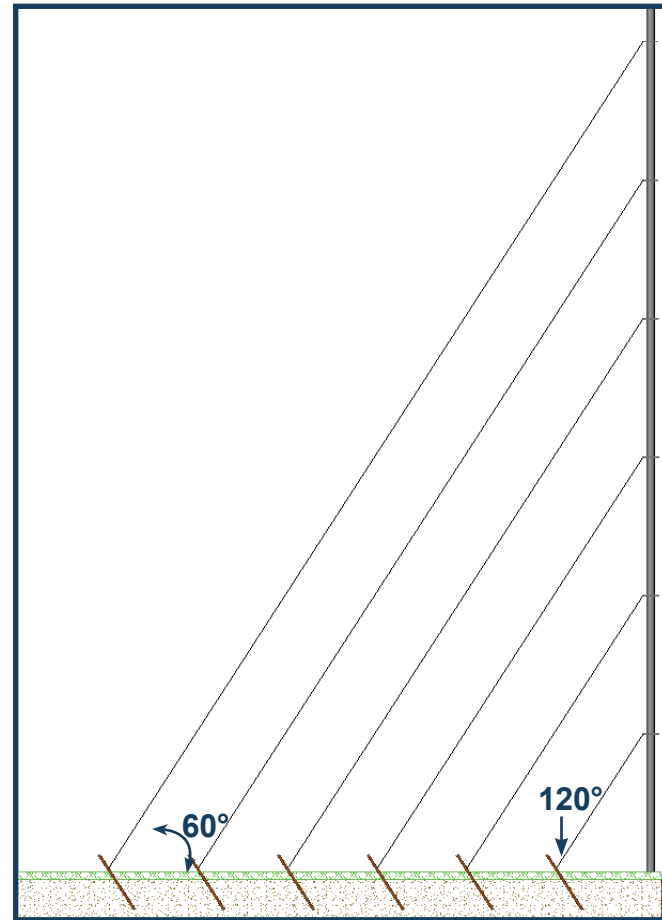

Fig 9 Example Temporary Installation of 6 section mast illustrating 60 degree angle guy wire from base.
- Guy anchors are not included, and at a minimum we suggest 4 x star pickets are installed, per collar ring, spaced evenly at 90 degrees and driven into the ground to a depth of at least 1 metre at 120 degrees (Fig 9). For long-term applications please reach out to our friendly sales team to discuss suggested solutions.
For temporary installations, we recommend using star pickets to anchor the guy wires or ropes. At a minimum, 4 star pickets should be installed for each collar ring, spaced evenly at 120 degrees and driven into the ground to a depth of at least 1 metre (Fig 9).